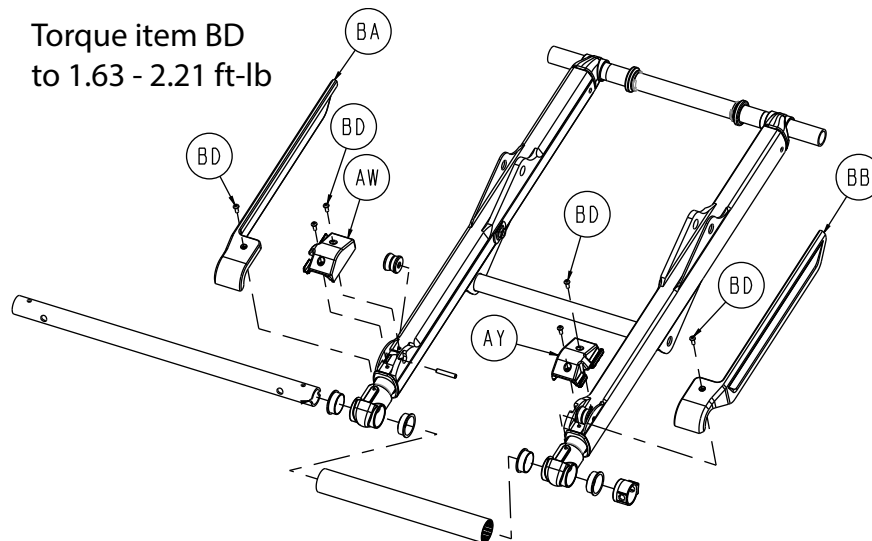

Figure 70 – Lift assembly components
4. Using a T25 Torx driver, remove the two button head cap screws (BD) that secure the roller cover (AW, AY) to the outer lift tube (Figure 70). Remove and save the roller cover. Save the screws.